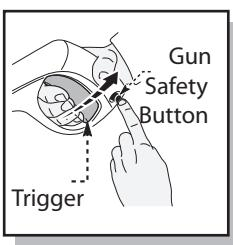

Fig. 5
- To lock the trigger of the spray gun aim the gun away from you and push the lock button from right to left, (Fig. 5), after doing so, squeeze or pull the trigger to make sure it is locked and will not move. Get in the habit of leaving the lock button in the "locked" position when the power washer is not in use. This ensures the gun is in "safe" mode until it is ready for use.